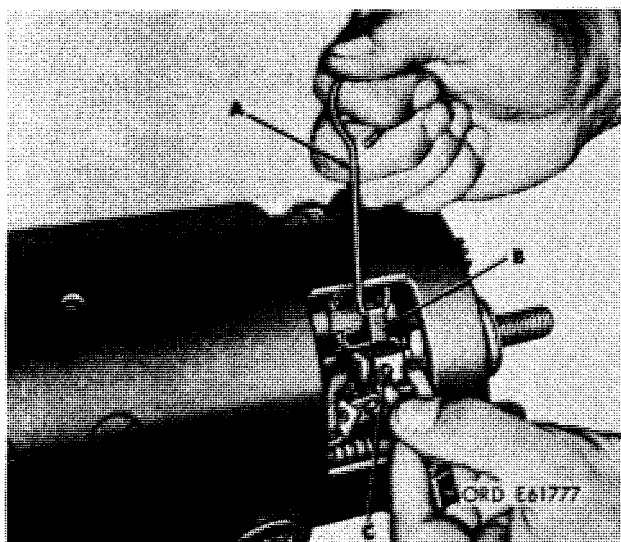

Figure 3-19. Removing or installing brushes in brush rigging using improvised brush spring lifter.
c. Using an improvised brush spring lifter (A, fig. 3-19) pull the brush spring (B) out of the way and slide brush (C) out of its holder. Remove remaining seven brushes in same manner. (See paragraph 2-4 for instructions to make, and authorization for use of, the improvised brush spring lifter).